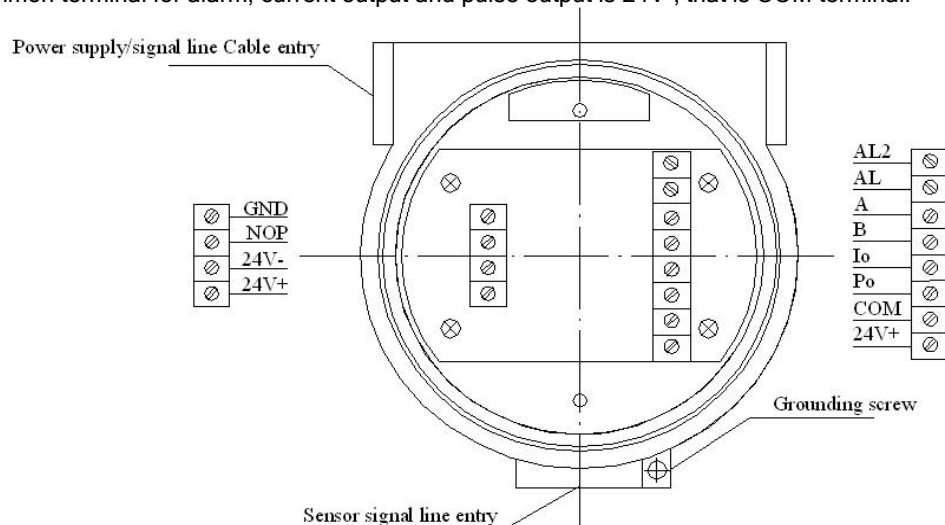

Figure 3. 24VDC Power supply wiring board
1) The normal wiring terminal board, showed in Figure 3